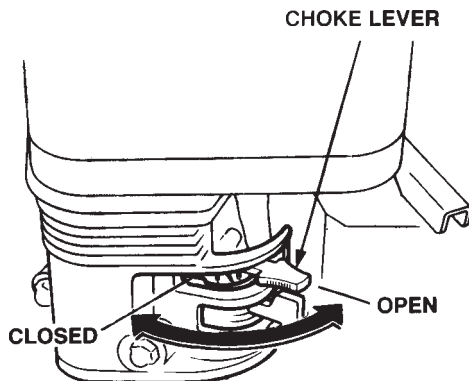

Figure 11. Choke Lever
3. Place the **Choke Lever** (Figure 11) in the "OPEN" position.
6. If the engine has started, slowly return the choke lever (Figure 11) to the **CLOSED** position. If the engine has not started repeat steps 1 through 5.